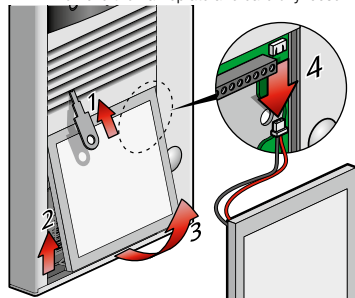

fig. 1
- ▶ **1.** Remove the nameplate and carefully loosen the connector for the nameplate lighting (fig. 1).